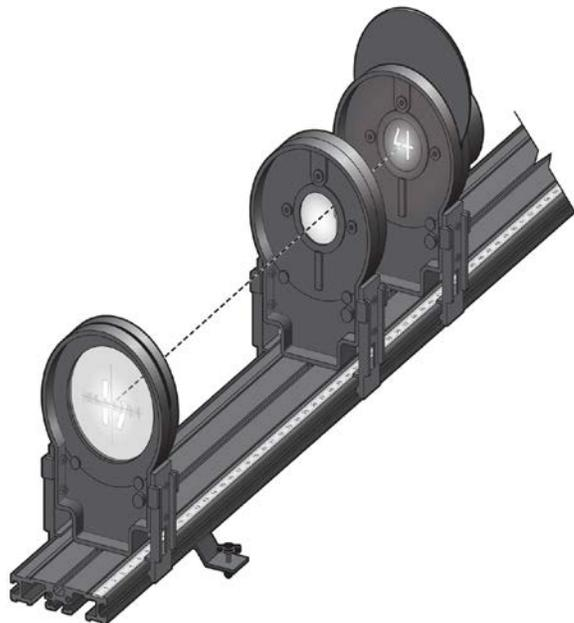

Figure 2
- Adjust the position of the screen until the image of the “4” on the screen is in focus (see Figure 2). One approach to obtain the sharpest image, once you think you have it, is to move the screen until the image begins to blur, then move it back until it again appears sharp.